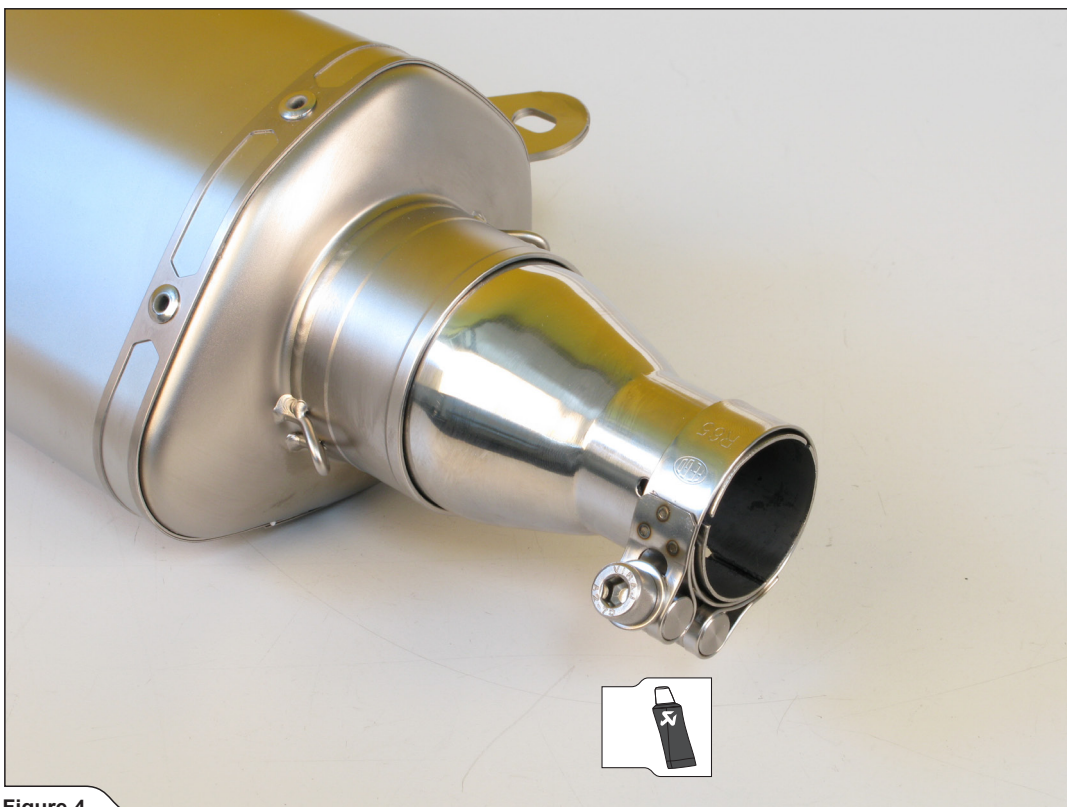

Figure 4
2. Slide the link pipe into the muffler's inlet and install Akrapovič clamp, as shown (**Figure 4**).